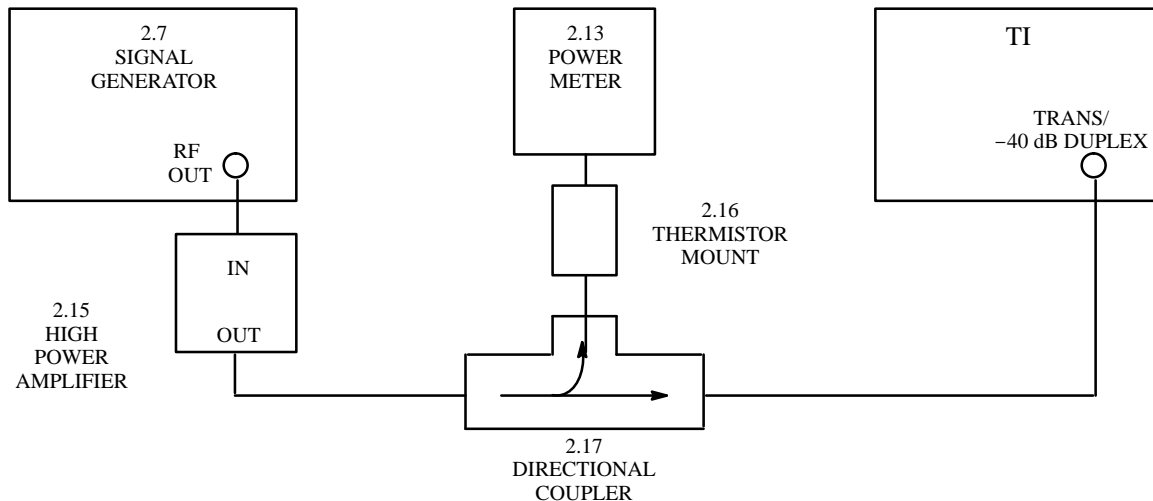

Figure 5. Power Monitor Test Configuration Using Directional Coupler
4.10.18 Remove the power standard assembly and high power amplifier from the test setup and replace it with the directional coupler, thermistor mount, and low power amplifier as shown in Figure 5.